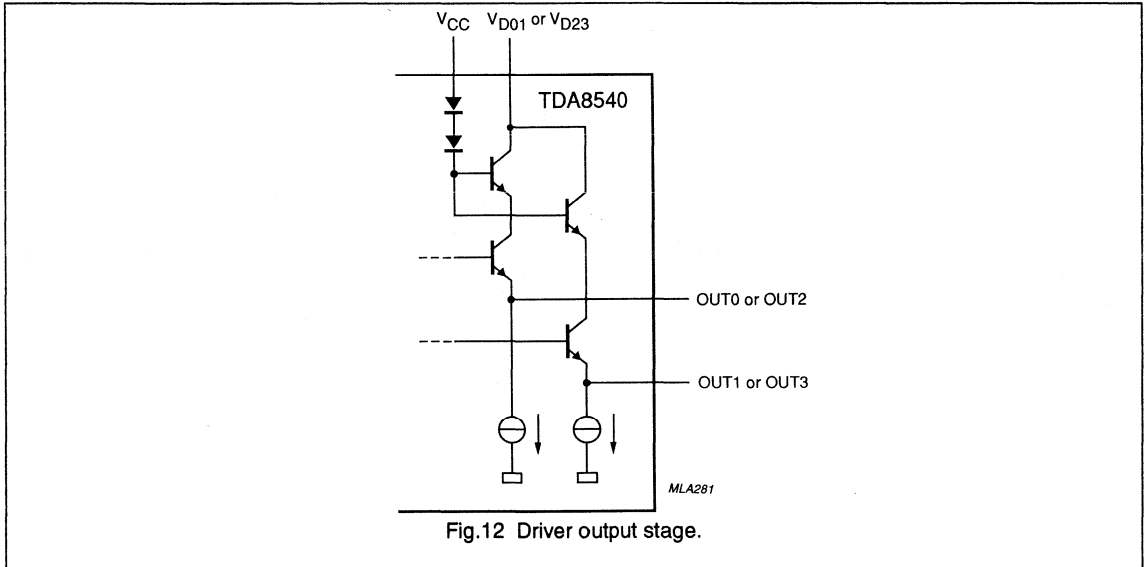

Fig. 12 Driver output stage.
- Fig. 12 gives a simplified circuit of the output stage of the driver.